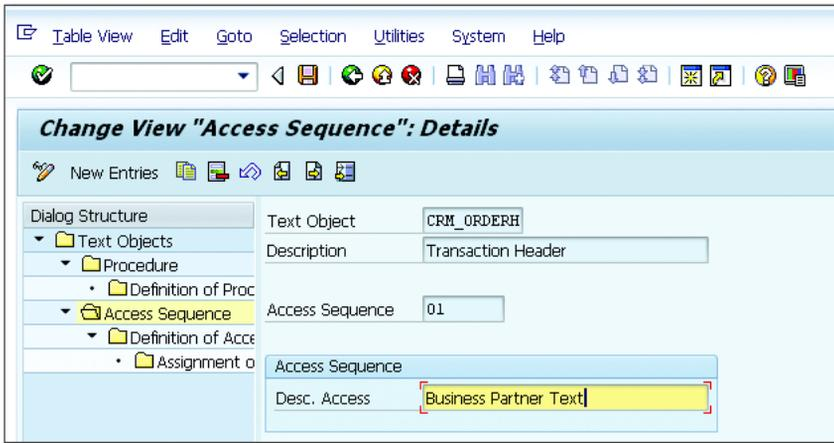
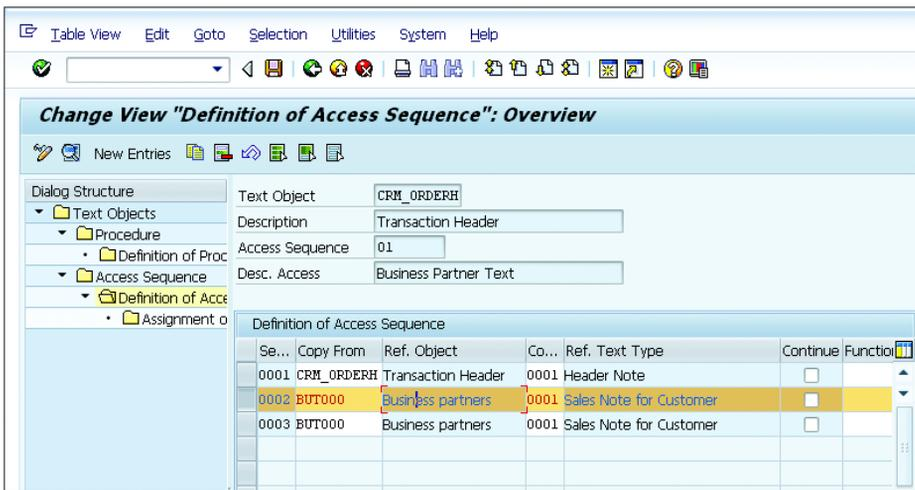
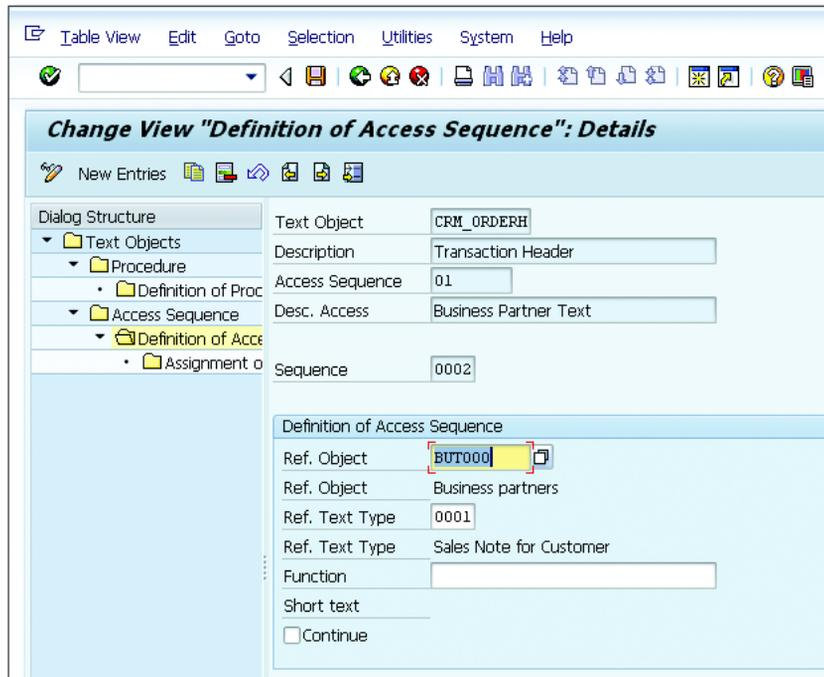

Figure 4.62 Access Sequence Assigned to the Text Objects
Figure 4.63 Text Access Sequence with Multiple Sequences
Figure 4.64 Access Sequence Details
11. Create the access sequence, and assign the reference object from where you want to determine the text on the business transaction. Like any other functionality in SAP CRM, to determine the correct record, SAP uses the access sequence. In this case, the concept is similar to other functionality within SAP CRM. Figure 4.62, Figure 4.63, and Figure 4.64 show the definition and the details around the text access sequence.
As shown in Figure 4.64, the source of the text is determined from which business object the text will be populated on the sales order. The reference text type from the business partner is specified, from which the text will be copied.